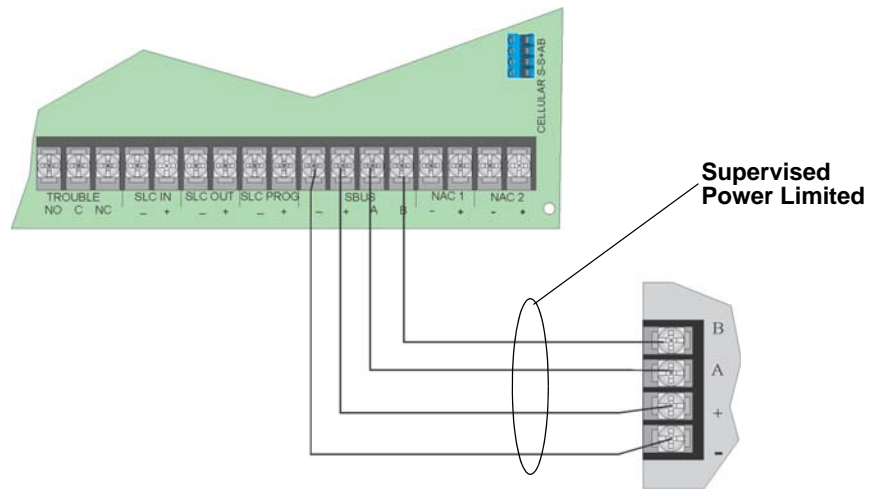

Figure 4-9 SBUS Class B Wiring
Figure 4-9 illustrates Class B configuration.
3. Wire the Annunciator board to the main control panel. See Figure 4-9.